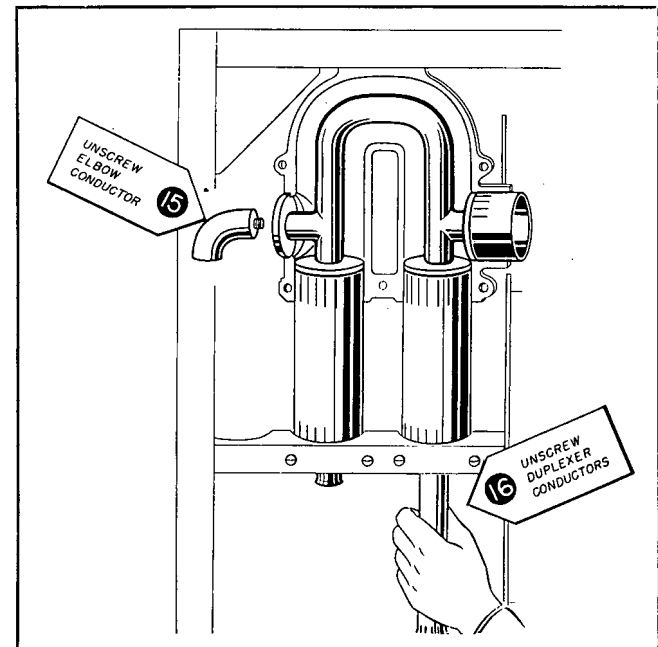

Figure 7-29. Removal of Upper Duplexer Conductors and Elbow Conductor
(5) The next step in the operation is shown in step 15 of Fig. 7-29. This consists of unscrewing the elbow conductor from the U-shaped section. The next step in disassembly is the removal of the upper sections of the inner conductors in the duplexers as shown in step 16 of Fig. 7-29. The ends of these sections are fitted with a threaded stud that screws into the U-shaped section.